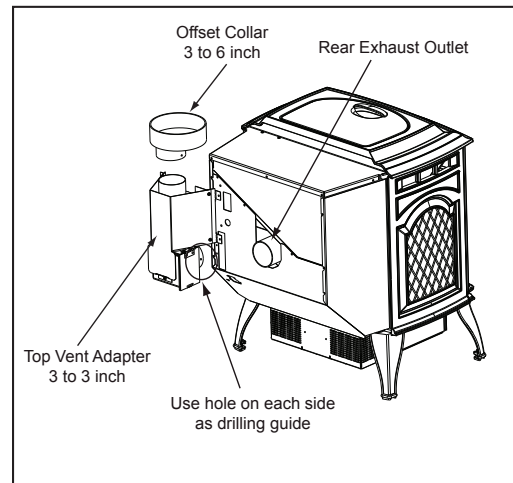

Figure 19.4
1. Put a layer of high temperature silicone on the 3 inch (76mm) exhaust outlet. **Do not put silicone inside of pipe.** **Figure 19.4**